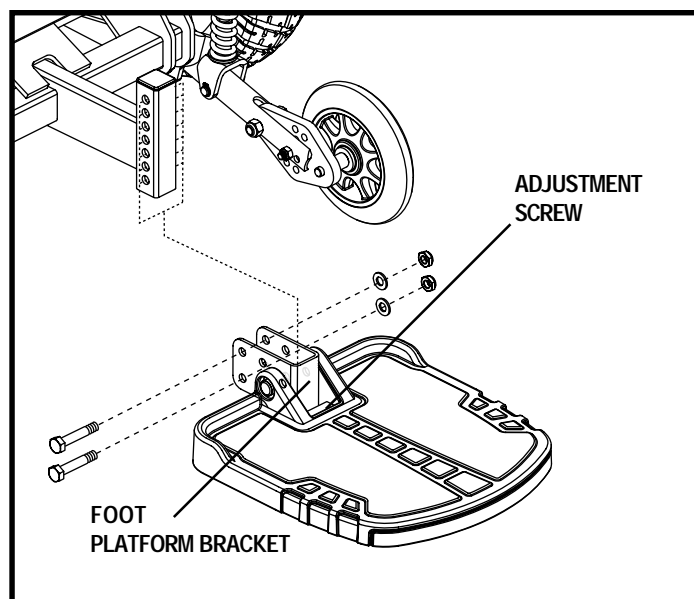

Figure 16. Foot Platform Adjustment
1. Remove the fasteners from the foot platform bracket. See figure 16.
You can adjust the angle of the foot platform. See figure 16.